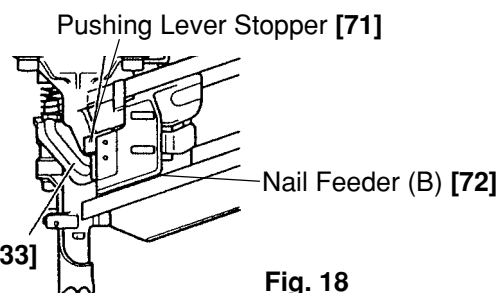

Fig. 18
- Check that Nail Feeder (B) [72] moves smoothly. Check that the Pushing Lever Stopper [71] is placed over Pushing Lever (B) [33] when Nail Feeder (B) [72] is at the front end (See Fig. 18.).